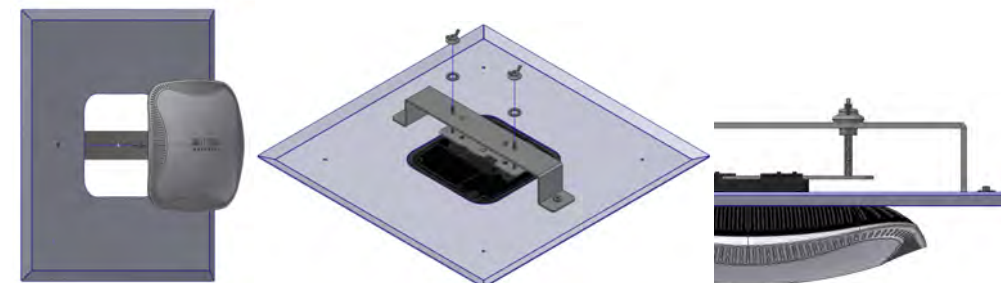
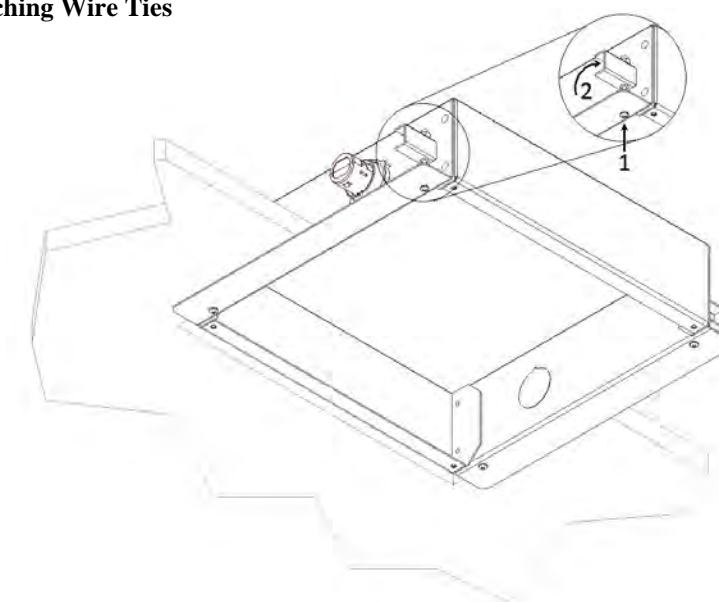

Figure 3 - T-Bar Bracket Install
Figure 5 - Back Box Mounting
Step 4 – Align the threaded studs to the two outer holes in the bracket attached to the Trim. Once the access point is snug in the hole, place the lock washer and wing nut onto the threaded rod. Tighten wing nuts until they are snug. With your fingers, tighten the hex nuts on the underside of the bracket then re-tighten the wing nuts until they no longer move freely (Figure 3).
Step 7 – Insert the Ethernet cable through the conduit connector previously installed in the enclosure. Insert the box into the opening in the ceiling/wall and using either a hand held screw driver or an electric screw driver set to the lowest torque setting, rotate the screws located at the four corners (#1 in Figure 5). Rotating the screws will cause the dogleg clip to rotate into position (#2 in Figure 3) and travel along the length of the screw, tightening the clip against the drywall. Caution, do not over tighten the screws as it may damage the flange of the enclosure. See OSHPD approved drawing where applicable.
Step 8 – Once the assembly has been installed in the wall or ceiling, run the Ethernet cable into the enclosure through the conduit connector located on the side of the backbox. Clamp the firestop grommet around the cable far enough to allow attachment to the access point (8" - 10"). Insert the grommet into the conduit fitting (Figures 5 and 6)